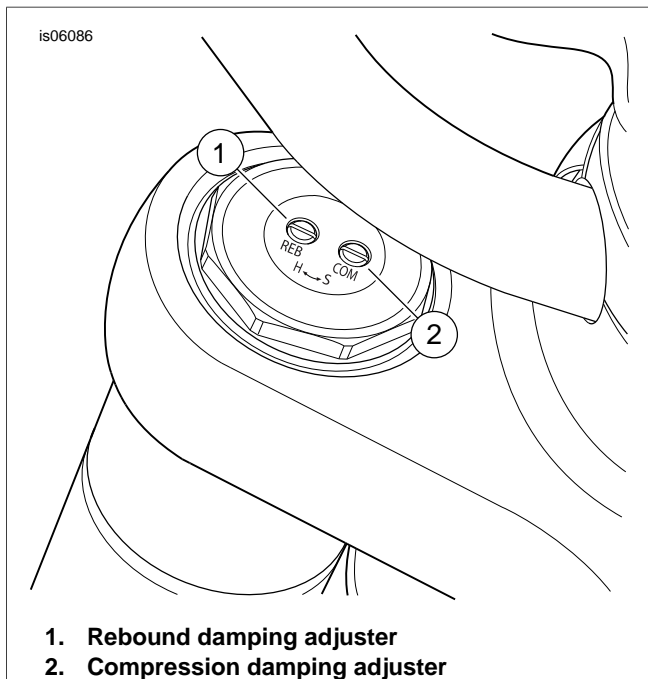

Figure 5. Fork Rebound and Compression Damping Adjusters
2. See Figure 1. Measure the distance from the top of upper fork bracket to top of fork assembly. Both sides must be exactly the same and measure 0.388-0.468 inch (9.85-11.89 mm) above the top fork bracket. Align the adjustment screws inline with the handlebars (see Figure 5).
- a. See Figure 5 and Table 2. Turn the rebound damping adjuster clockwise until it stops. This is the maximum rebound damping setting.
- a. See Figure 5 and Table 2. Turn the compression damping adjuster clockwise until it stops. This is the maximum compression damping setting.